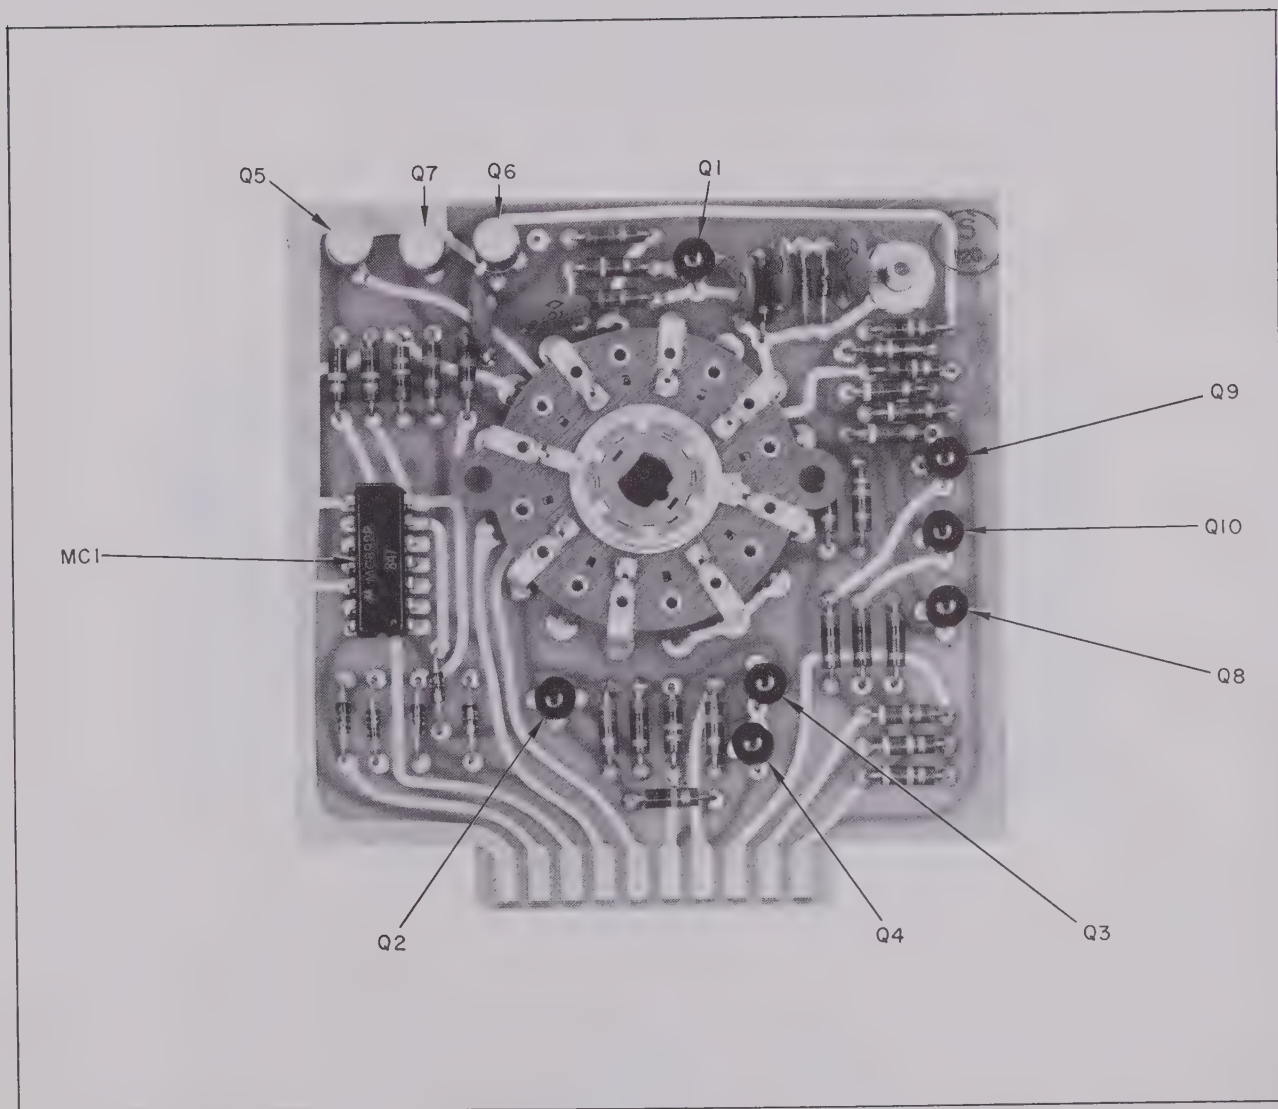

Figure 4-4. Band Switch Board A1
- c. Resistive matching network consisting of two 51-ohm and two 68-ohm resistors (See figure 4-4.)